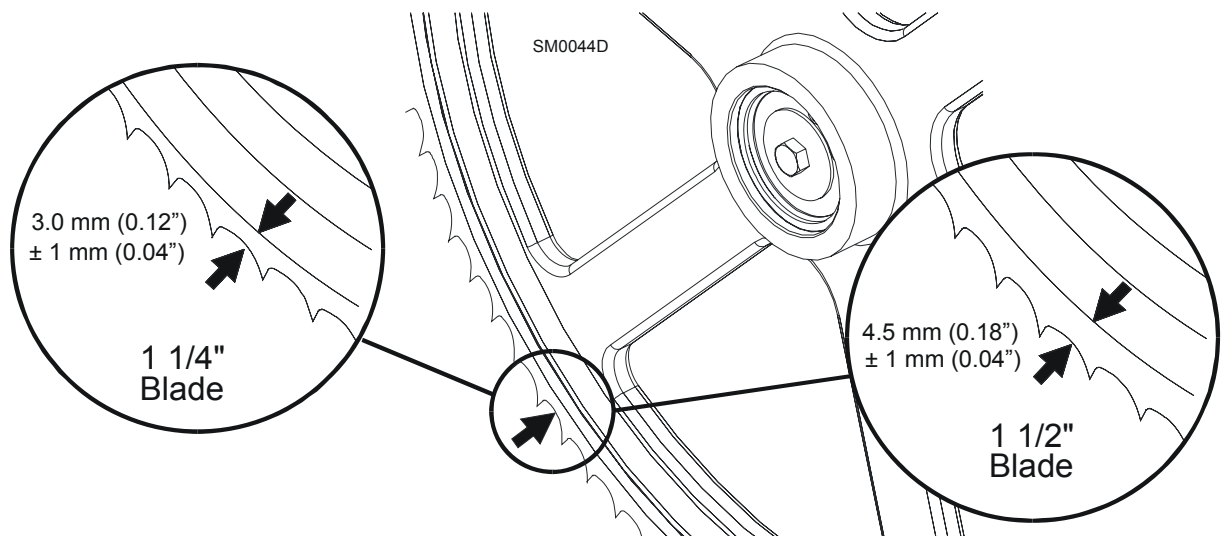

FIG. 5-3
**See Figure 5-3.** The blade wheels should be adjusted so that the gullet of 1 1/4" blades rides 3.0 mm (0.12") out from the front edge of the wheels ( $\pm 1.0$  mm [0.04"]). The gullet of 1 1/2" blades should ride 4.5 mm (0.18") from the front edge of the wheels ( $\pm 1.0$  mm